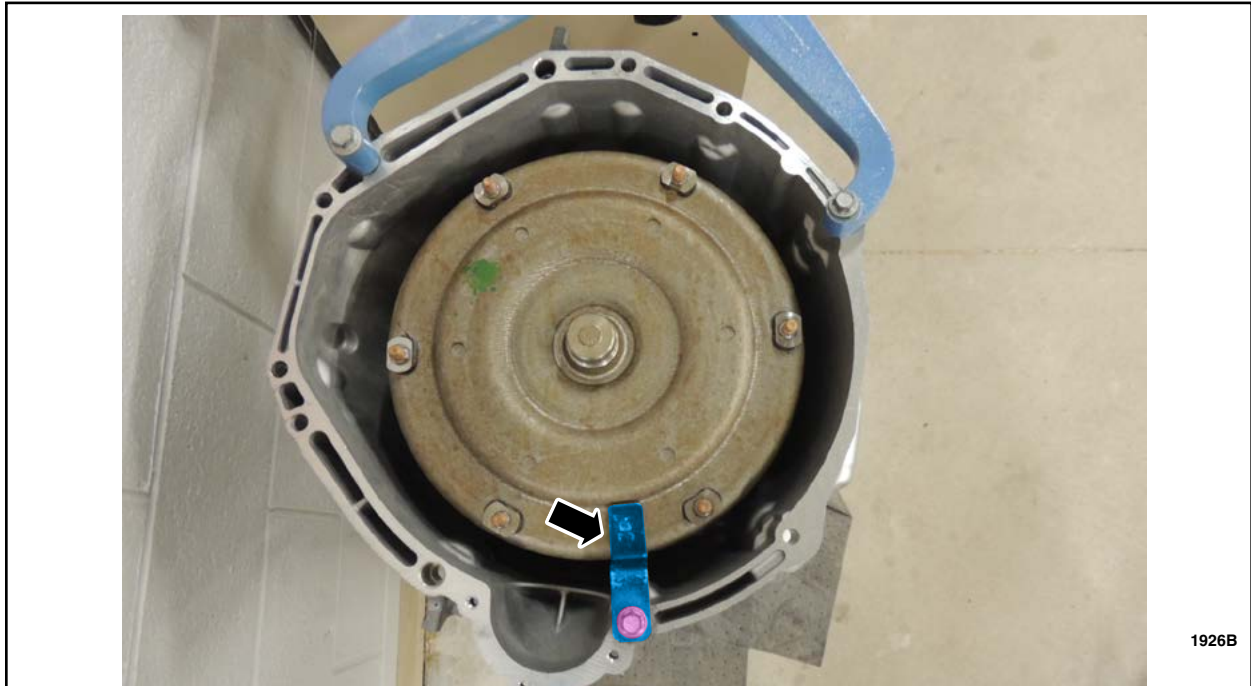

FIGURE 2
3. Remove the Torque Converter Retainer (307-346). See Figure 2.